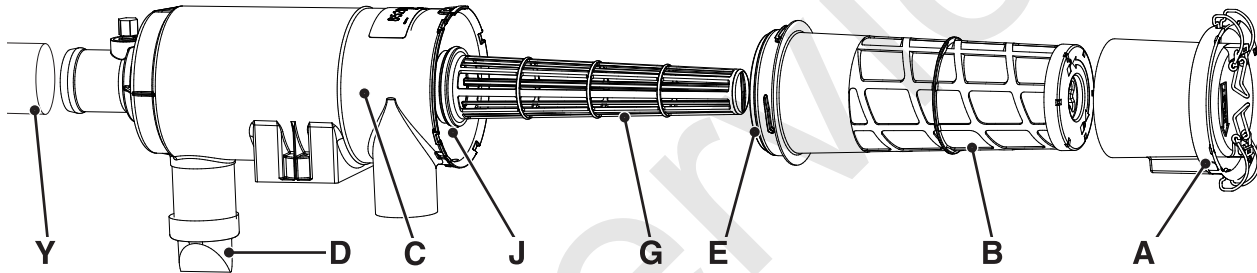

Fig 89.
- 2 To prevent dust getting into the engine, remove the induction hose **Y**. Cover the hose to prevent rain and dirt getting into the engine. → Fig 89. \(□ 231\).